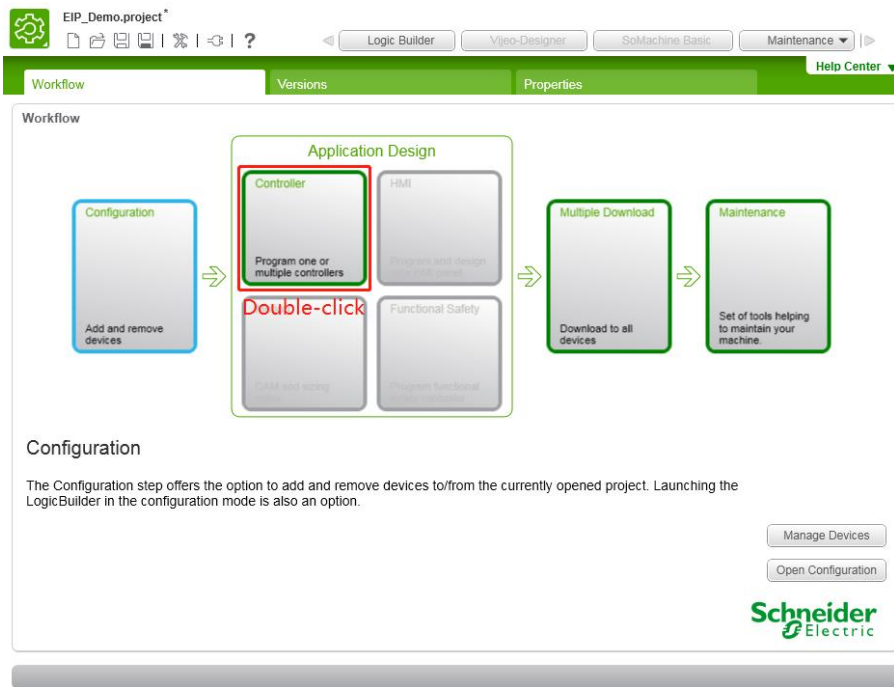

Figure 5-3-2
- Double-click "Controller" as shown in Figure 5-3-2.